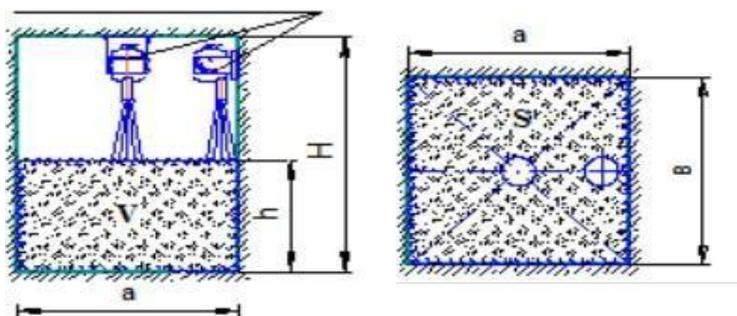

**Figure 4.** In room or duct at a height of 1m with an axis angle of 20 degrees and the atomizer insert pointing downwards.
6.2 Suspension 8 can be mounted under the ceiling (Figure 1) or suspension 9 (Figure 2) can be attached to the wall. Please mark the places for attaching the suspension as on the (picture 3) and on the wall acc. (Figure 4).
6.6 The configuration of the powder propagation and the representation of the erasing surfaces shown in the following figures 4, 5, 6, 7 and tables 2 and 3.